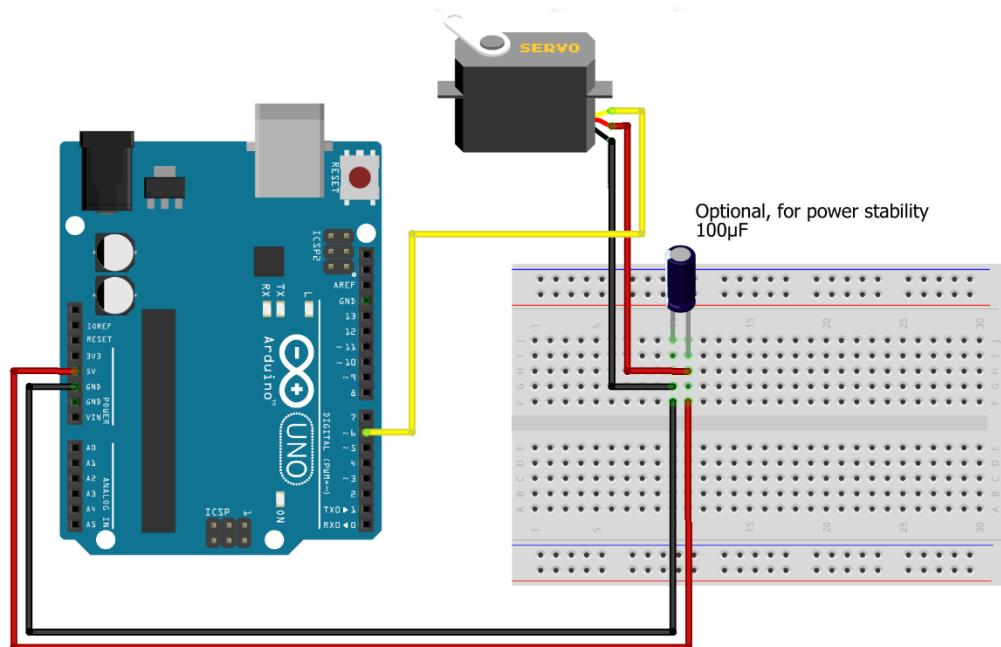

Figure 4.1 – Wiring diagram for SG90 servo motor
- Connect the servo motor as shown in the wiring diagram (Figure 4.1). If available, place a **100 µF capacitor** between 5V and GND near the servo.